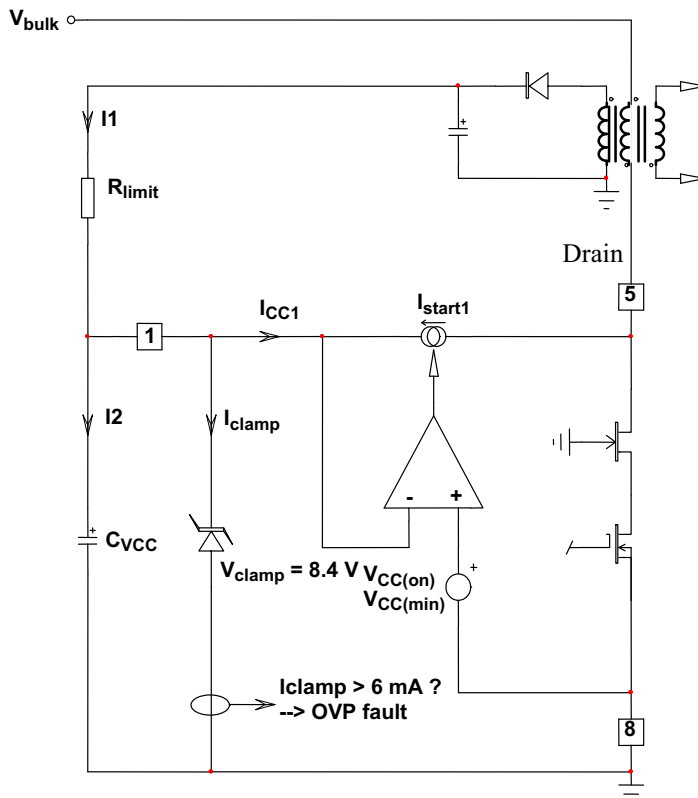

Figure 21. The Internal Arrangement of the Start-up Circuitry
level (typically 8.2 V), the current source turns off and pulses are delivered by the output stage: the circuit is awake and activates the power MOSFET if the bulk voltage is above VHV(EN) level (91 V typically). Figure 21 details the simplified internal circuitry.
The VCC capacitor has only a supply role and its value does not impact other parameters such as fault duration or the frequency sweep period for instance. As one can see on Figure 21, an internal active zener diode, protects the switcher against lethal VCC runaways. This situation can occur if the feedback loop optocoupler fails, for instance, and you would like to protect the converter against an over voltage event. In that case, the internal current increase incurred by the VCC rapid growth triggers the over voltage